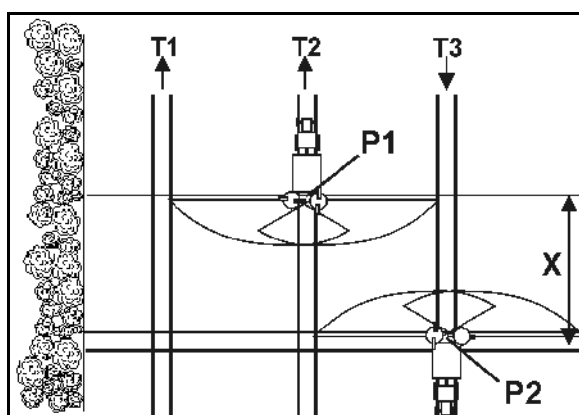

Fig. 71
- Open the shutter after entering the tramline at point P1 (Fig. 71), when the spreader discs are at distance X from the tramline of the headland.
- Close the shutter before leaving the tramline at point P2 (Fig. 71), when the spreader discs are located at the level of the first tramline of the headland.